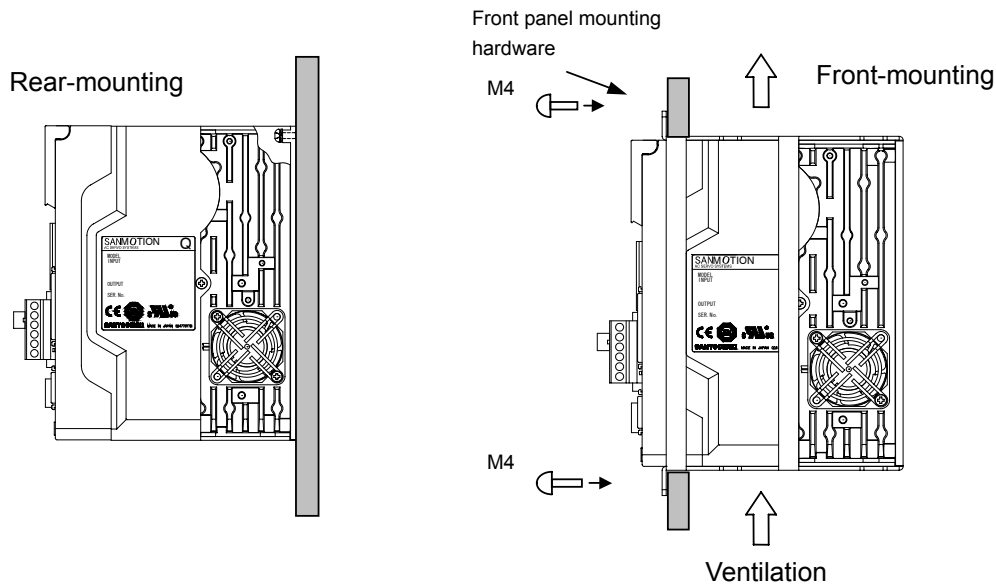

Fig. 5-1 Servo amplifier mounting
- ① Mount the servo amplifier standing upright as shown in Fig. 5-1.
- ② Refer to Section 10 (Options) regarding the front and back panel mounting hardware (PY2 mounting compatible).